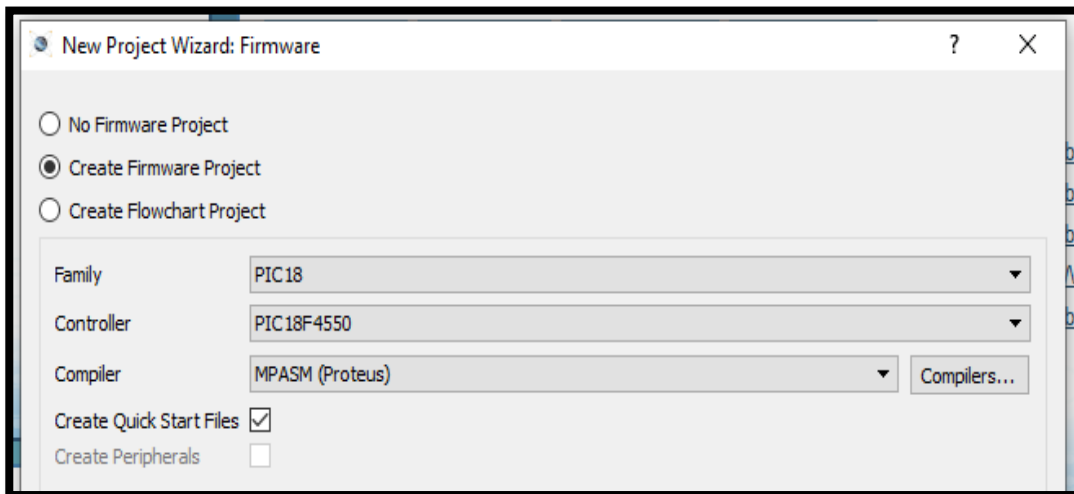

Figure 2.6 : Create Firmware Project
8. Next, we will be choose Firmware to be used in the simulation. Create Firmware Project and choose desired tools needed before continuing to New Project Wizard: Summary as **Figure 2.6**.